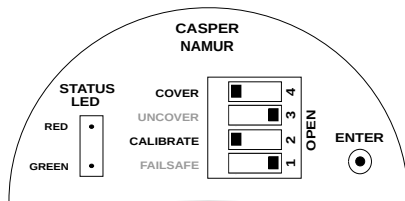

Figure 57: High Calibration Switch Position
- To start with the calibration, set the CALIBRATE & COVER switch to CLOSE (Opposite of OPEN for DIP switch) position as shown in Figure 57.
- Set the CALIBRATE and COVER switch to CLOSE (Opposite of OPEN in a DIP switch) position as shown in Figure 57.